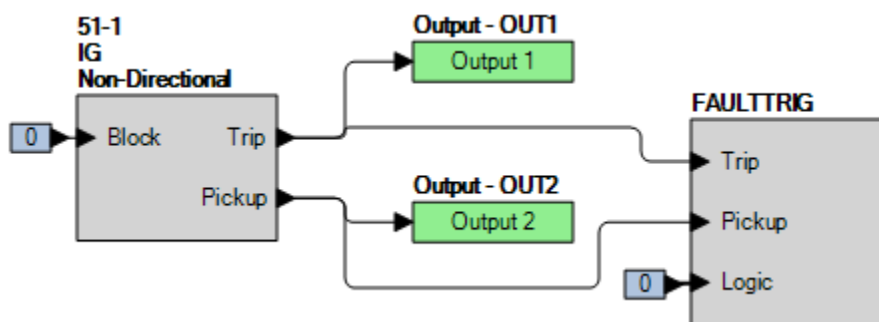

Figure 64-4. BESTlogic*Plus* Settings (IG Mode)
- Step 2: Use BESTCOMS*Plus* to configure the BESTlogic*Plus* programmable logic shown in Figure 64-4.
- Step 4: Prepare to monitor the 51-1 function operation. Operation can be verified by monitoring OUT2 (see Figure 64-4).
- Step 5: Connect a current source to terminals D7 and D8 (IG).